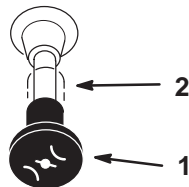

Figure 4
4. Move the choke control to “ON” position before starting a cold engine (Fig. 4).
- After the engine starts, move the choke to “OFF” (Fig. 4). If the engine stalls or hesitates, move the choke back to “ON” for a few seconds. Then move the throttle lever to desired setting. Repeat this as required.